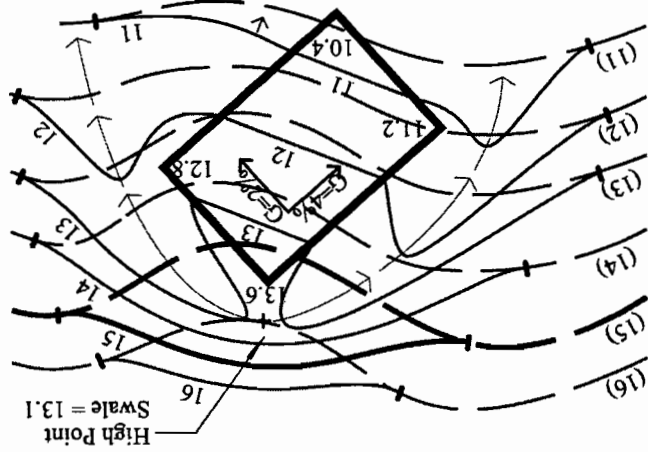

Figure 3-42, Horseshoe Swale to Protect a Sloping Plane Surface
18. Contour signature representing a horseshoe swale around a sloping plane surface. Like the horseshoe swale designed to protect a level slab from downslope runoff, this grading feature is designed to protect a sloping plane surface, such as a terrace or a game court, from downslope runoff. To understand how runoff flows around and away from the sloping plane surface, study Figure 3-42.